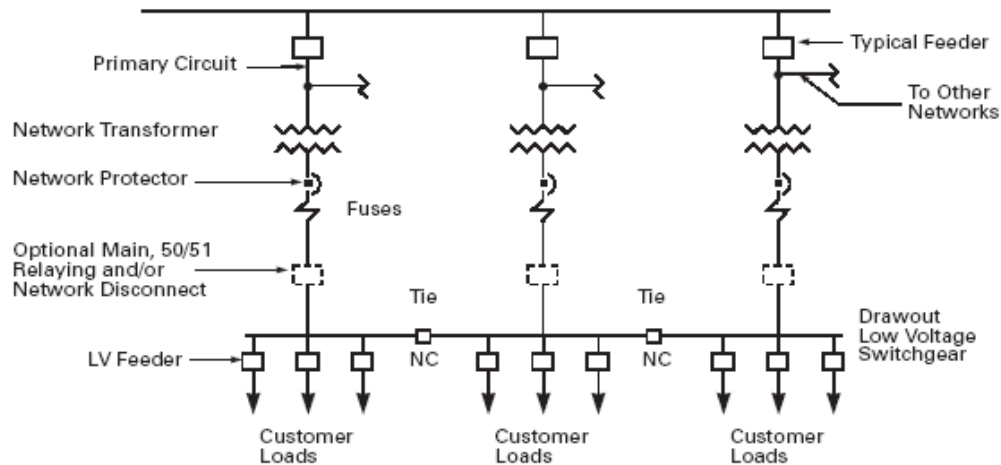

Fig. 17 Three Source Spot Network.
1. A network protector is connected in the secondary leads of each network transformer in place of, or in addition to, the secondary main breaker, as shown in Fig. 17.